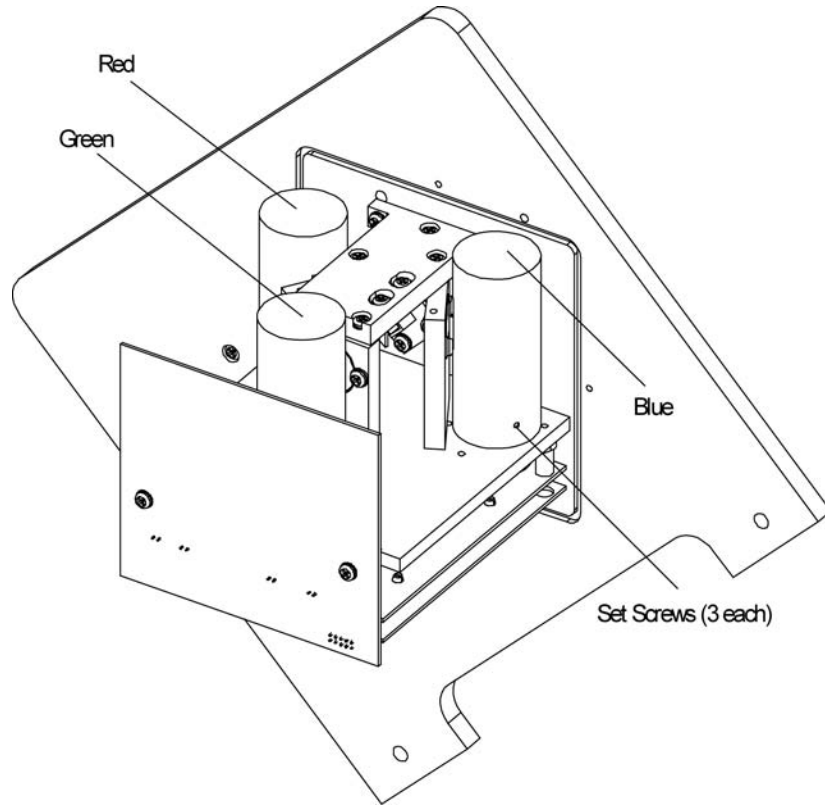

Figure 8-41
- 3.** To check the bandpass filters, you must remove the PMTs with their magnetic shields (Figure 8-41). To remove a shield and tube, support the sensor frame with one hand and use your other hand to *gently* rock the shield from side to side as you pull it from its socket.